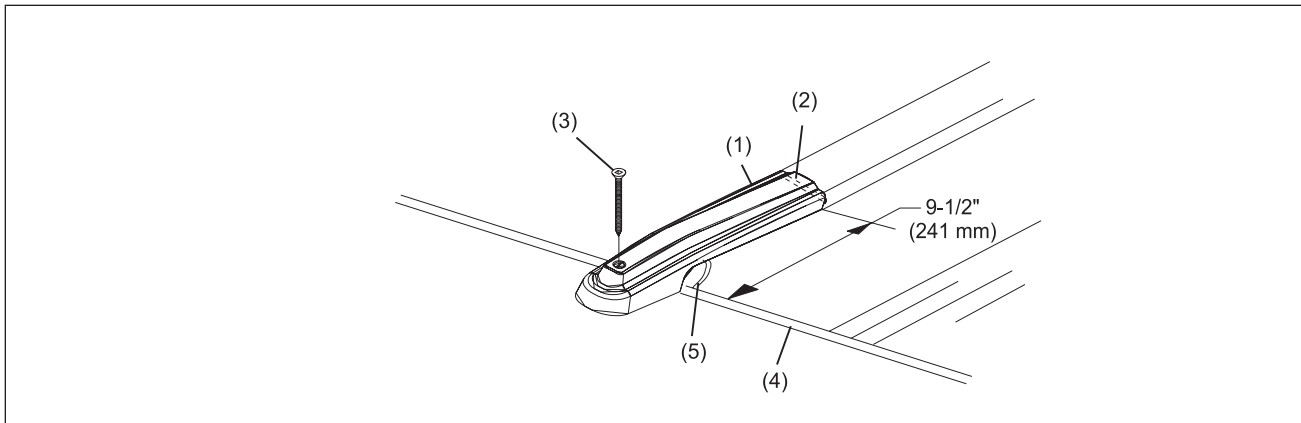

Figure 29. Install Division Cover
1. Center the division cover on the division capping. Refer to *Figure 29*.
4. Cut a clearance hole in the gutter to permit the Tel-E-Foul signal to pass from the Tel-E-Foul to the reflector. See Item 5, *Figure 29*.
5. Reposition the cover and secure it with a #14 x 3-1/2" flat head Robertson screw. Refer to *Figure 29*.